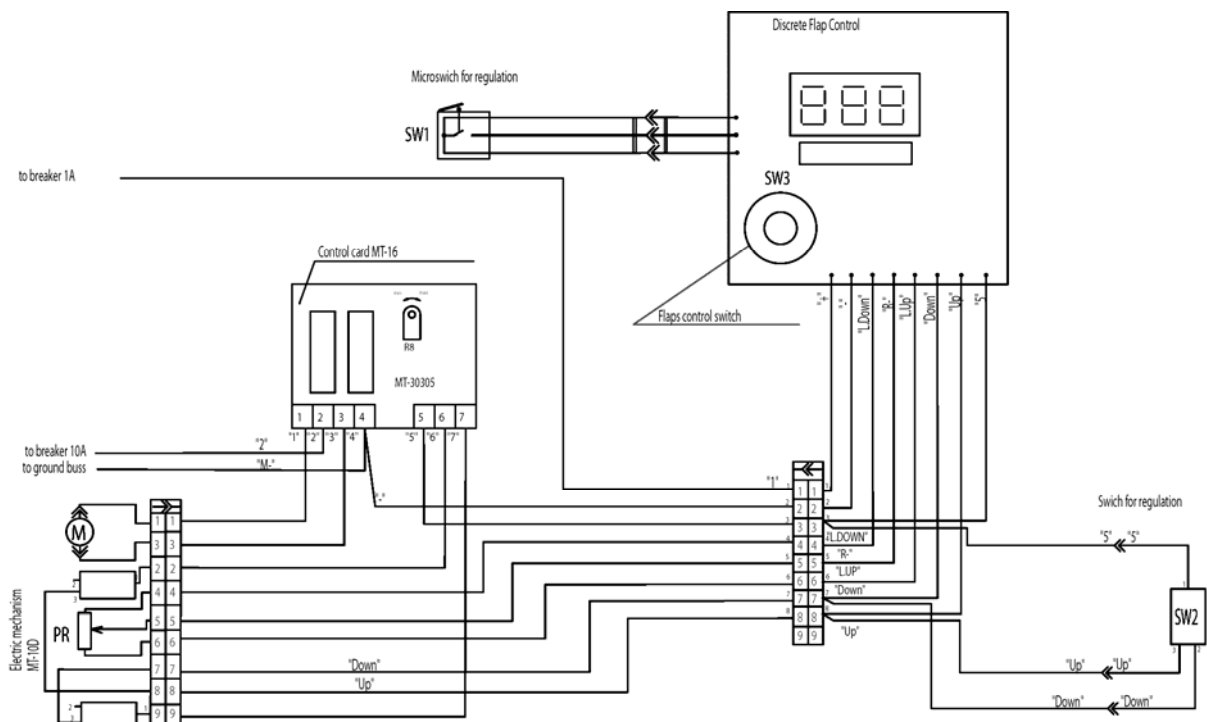

Fig. 9
1. Connect printed circuit board (PCB) connectors with corresponding headers of the flap actuator control (Control Card MT-10) wiring harness (Fig. 9).
7. If you cannot adjust (set) max angles of deflection (the rod of the flap actuator takes the end position), this problem could be solved by adjusting the length of the rod of flap control. The length of the rod can be adjusted only following the item 4.4.1.5.